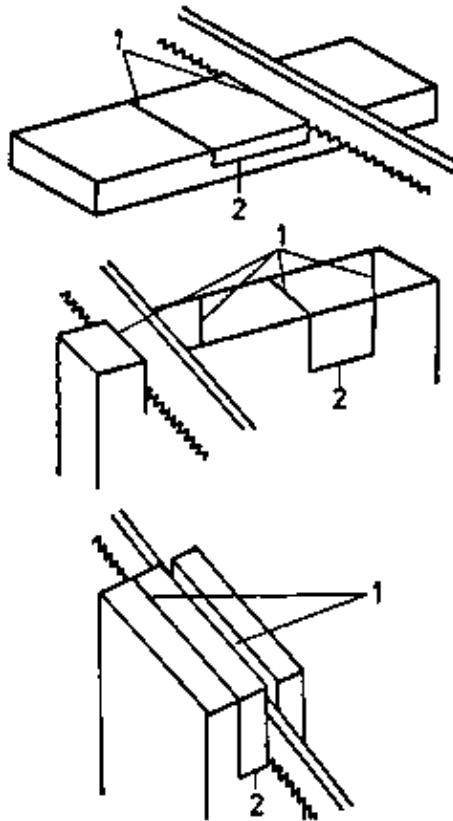

Figure 12 Cutting in two recess edges by means of sawing
- give a cut with the saw close to the limiting lines across the grain up to the marked working depth (cf. Fig. 12). In addition to it, cut in longer recesses sectionally,
- give a cut with the saw close to the scribed lines in parallel to the grain, up to the transverse limiting lines (cf. Fig. 12),